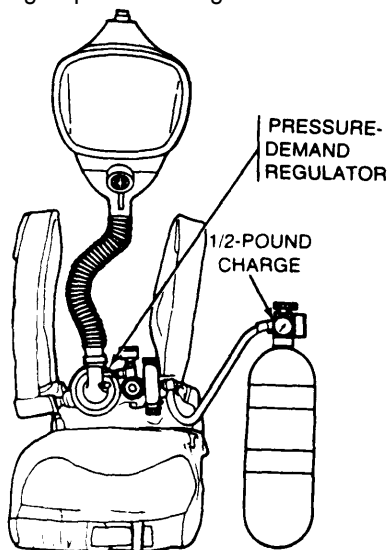

Figure 3-21. Explosive Charge Location for M23/M23A1 Breathing Apparatus.
- (1) Lay apparatus down.
- (2) Fasten 1/2-pound explosive charge on pressure reduction valve next to compressed air cylinder (fig 3-21).
- (3) Place pressure-demand regulator and facepiece group over charge and detonate.